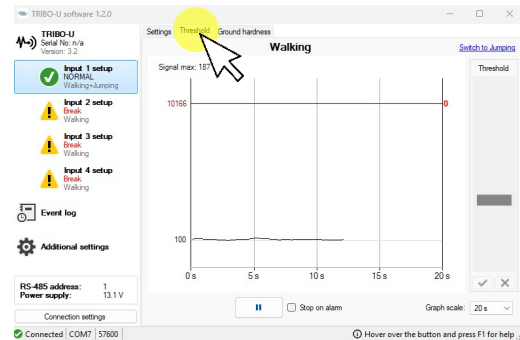

Fig. 16
- On the program screen click on the Threshold tab (Fig. 16).